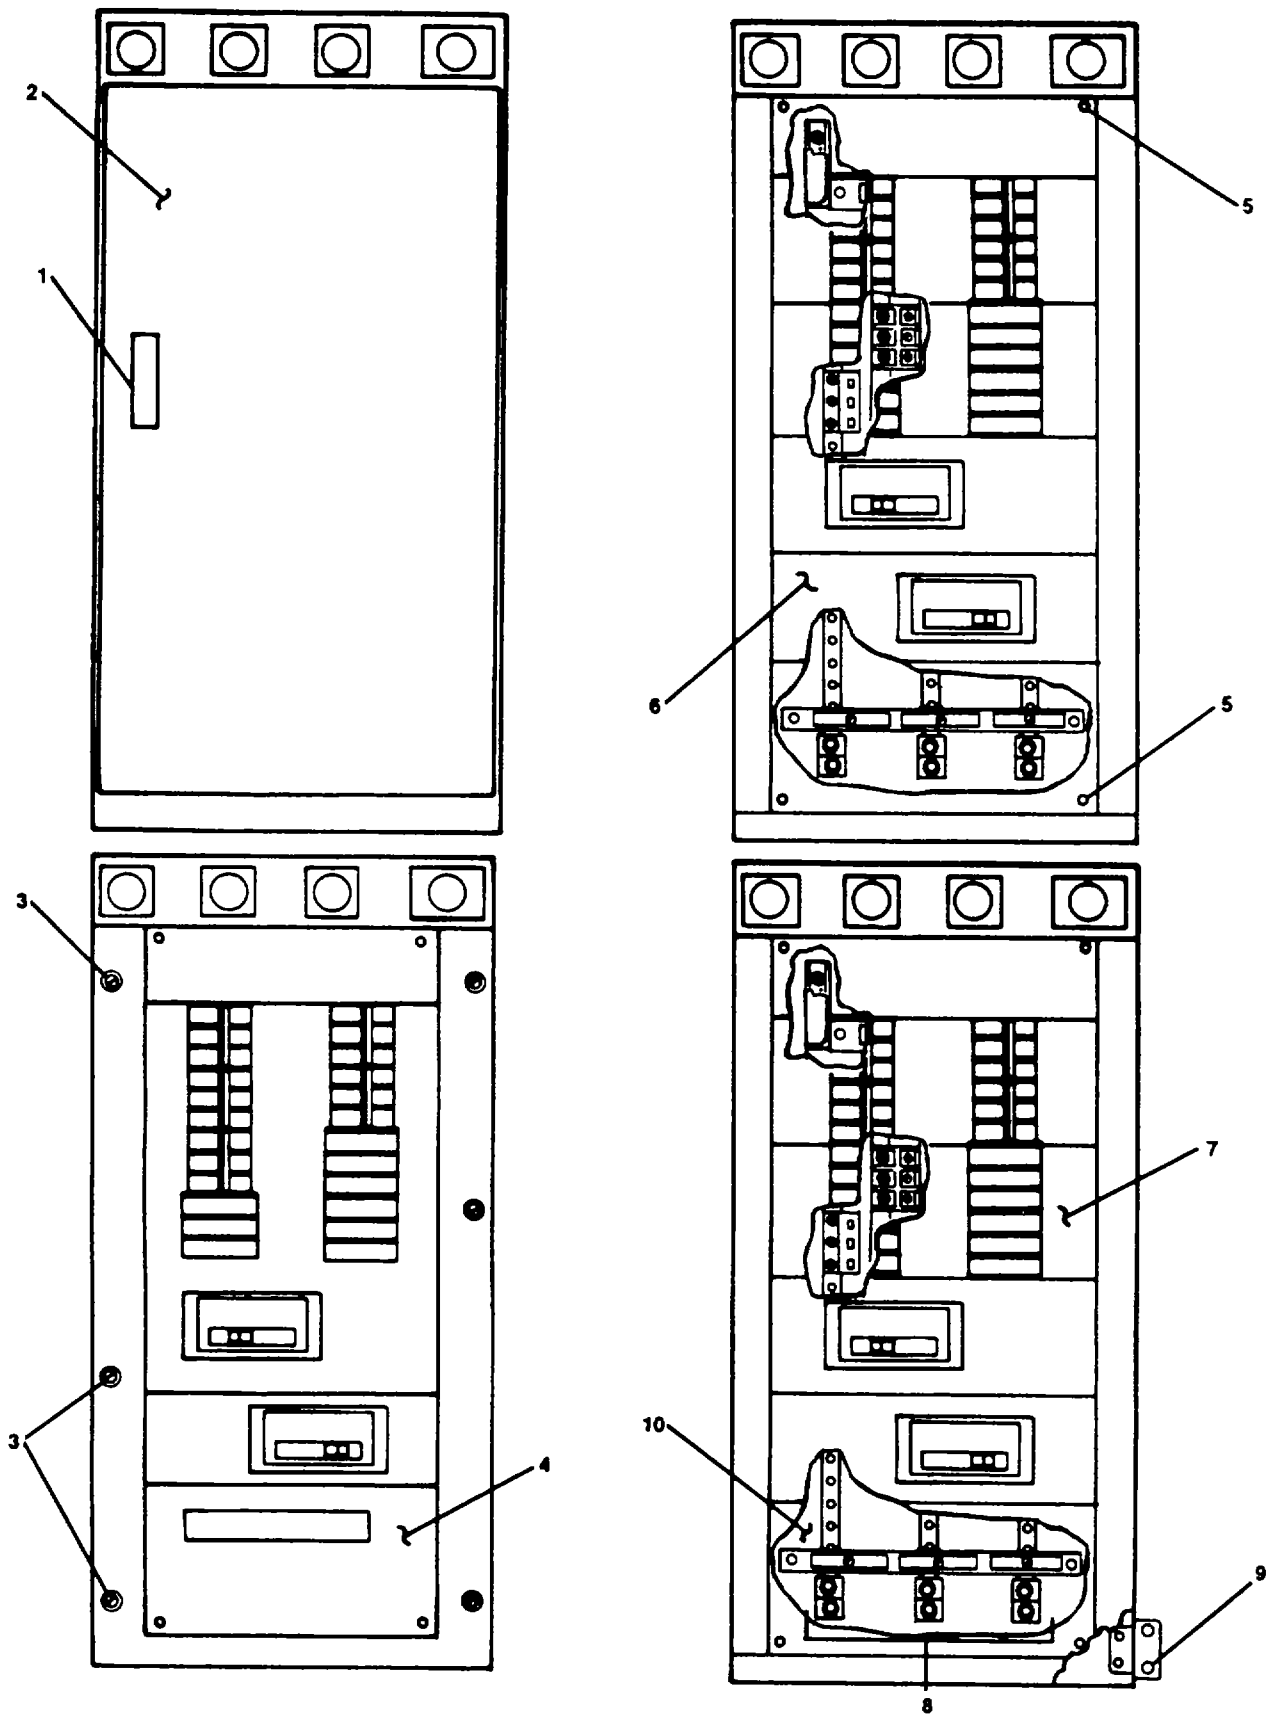

Figure 2-54. Replace Load Center.
a.Press key latch (1, Figure 2-54) and open door (2).